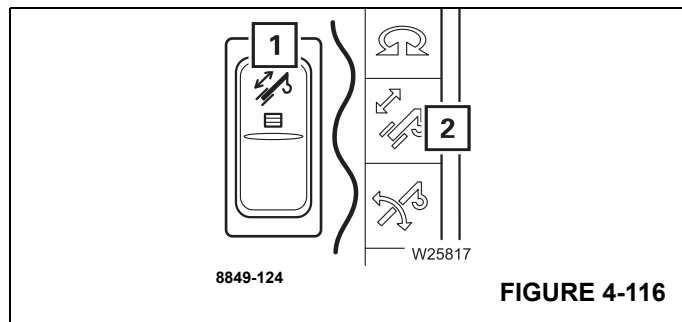

FIGURE 4-116
- Press the button on the right hand armrest (1), (Figure 4-116) once.
- The lamp in button (1) will light up brightly.
- The symbol (2) will be green if the telescoping mechanism is switched on.